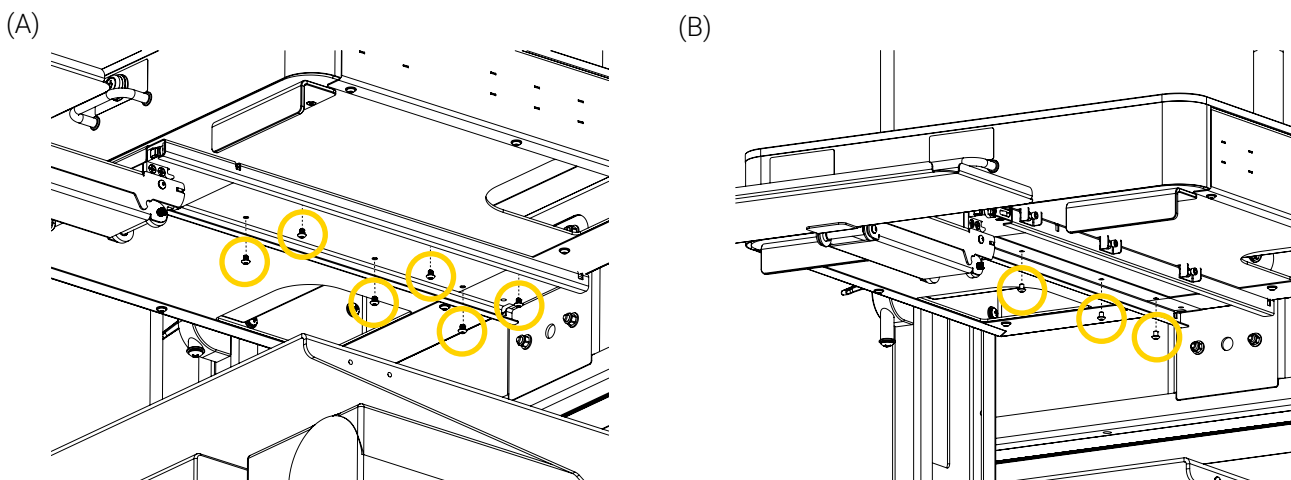

Figure 5: Removing the first accessible screws
6. While one (1) person is holding the tray, remove the sliding mechanism screws using a 1/8 in. hex key:
- For an Endoscopy Cart with a 1-part sliding mechanism, remove the first six (6) accessible screws (Figure 5 A). The hardware will not be reused and can be discarded.
- For an Endoscopy Cart with a 2-part sliding mechanism, remove the first three (3) accessible screws on the rail located on the left-hand side (Figure 5 B). The hardware will not be reused and can be discarded.